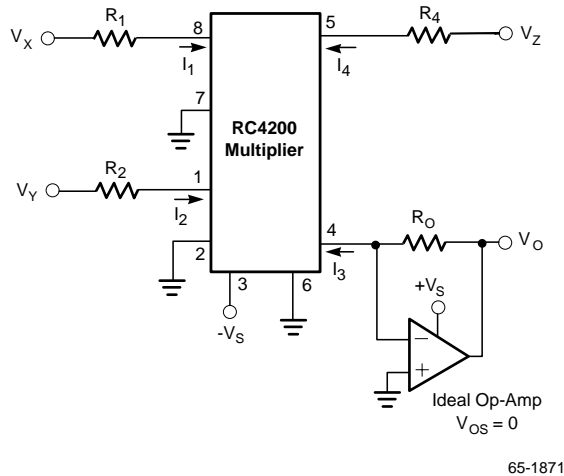

Figure 12.
2. This section will not deal with feedthrough which is proportional to frequency of operation and caused by stray capacitance and/or bandwidth limitations. (refer to Figure 12.)